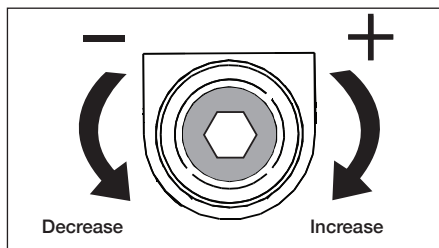

Figure 14, Relief Valve Adjustment Screw
4. Using a 7/32" Allen wrench, loosen the relief valve adjustment screw about 2 turns. See Figure 14.